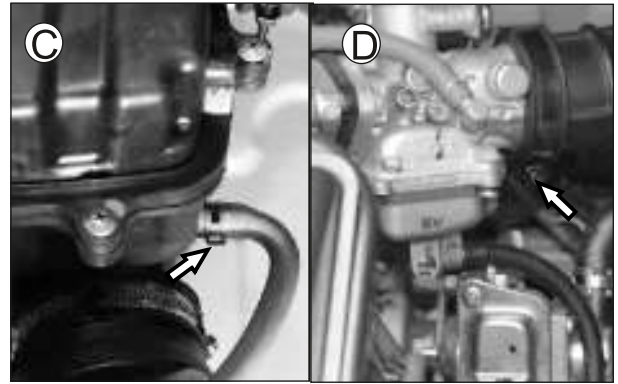

Fig. 5.82
- Disconnect breather hose PCV from air cleaner assembly (C). (Fig. 5.82)
- Loosen and remove the tube out let air filter hose clip from carburetor intake (D) (Fig. 5.82)